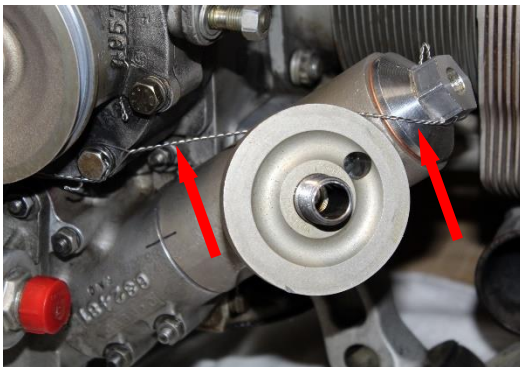

Figure 8
- a. oil transfer cylinder to the engine (Figure 8) and,